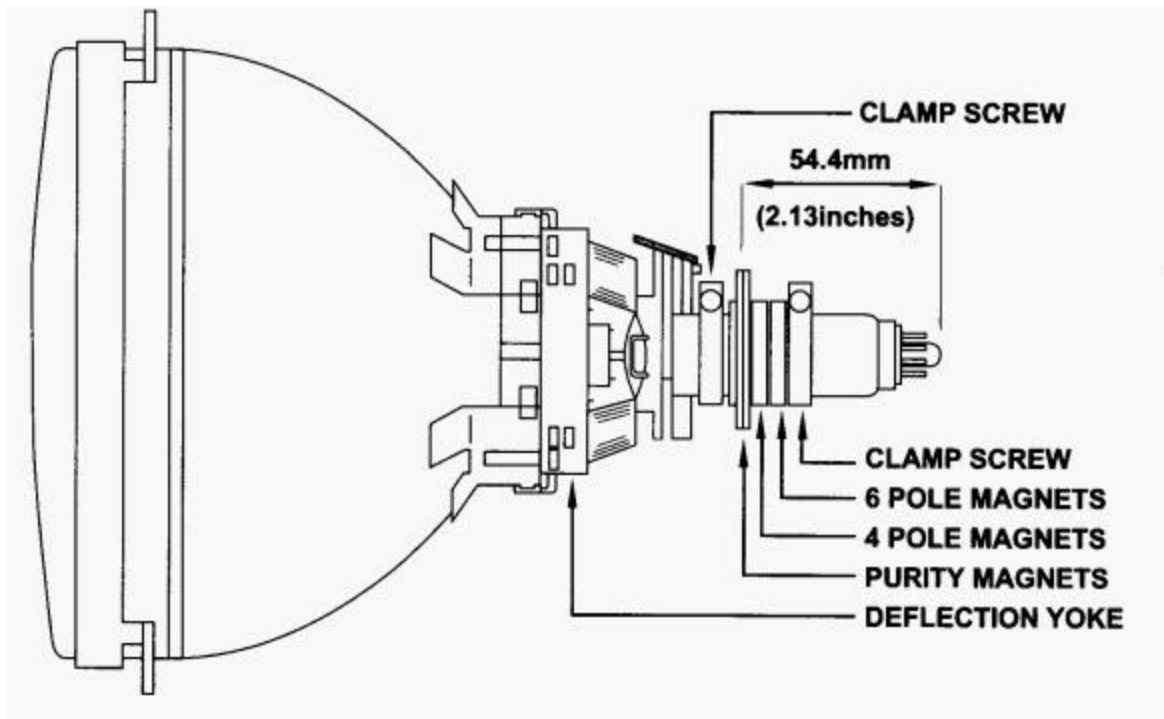

FIG. 3
1. Check correct location of all neck components. (Refer to Figure 3)
STATIC CONVERGENCE ADJUSTMENT (Refer to Figure 3 and 4)
IMPORTANT: Before proceeding, make sure the location of the convergence magnet assembly on the neck of the CRT is as shown in Figure 3. The rear edge of this assembly must be positioned 65 mm from the tip of the CRT base. If not properly positioned, convergence adjustment may be difficult, if not impossible.